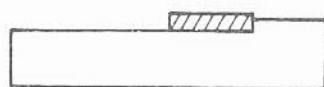

Figure 6 Flat file
- The *flat file* (Figs 6 and 15) is rectangular in cross-section and has the width and thickness tapered.